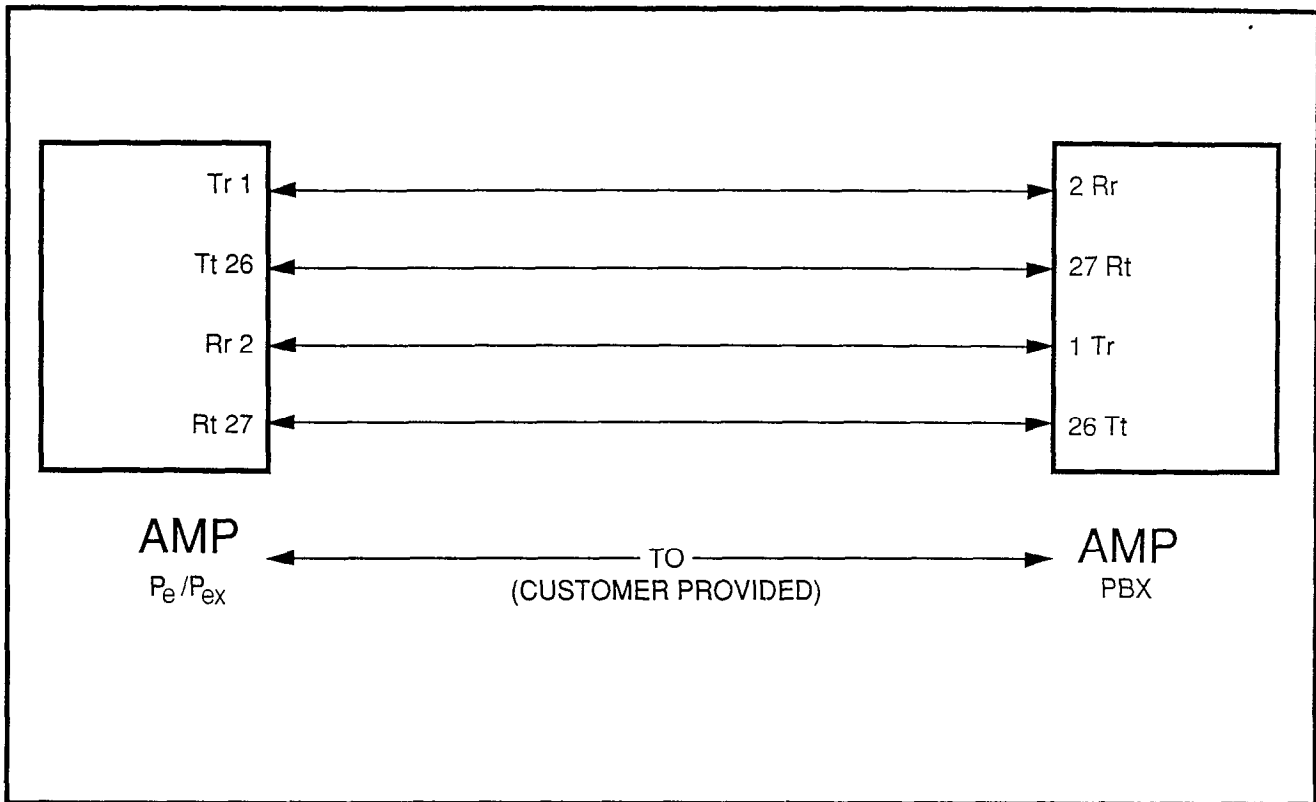

FIGURE 6
- 3) Connect the DB15 connector to the CSU (see Table 4 and Figure 6). (Pins 2 and 4 are grounded within the cable.)
3.41 Connecting a PERCEPTION_{e&ex} T1 span to another PBX, in a digital TIE line (Type I or II) configuration and at a distance of less than 655 feet, will require a special cable. Figure 6 shows the required connectors.